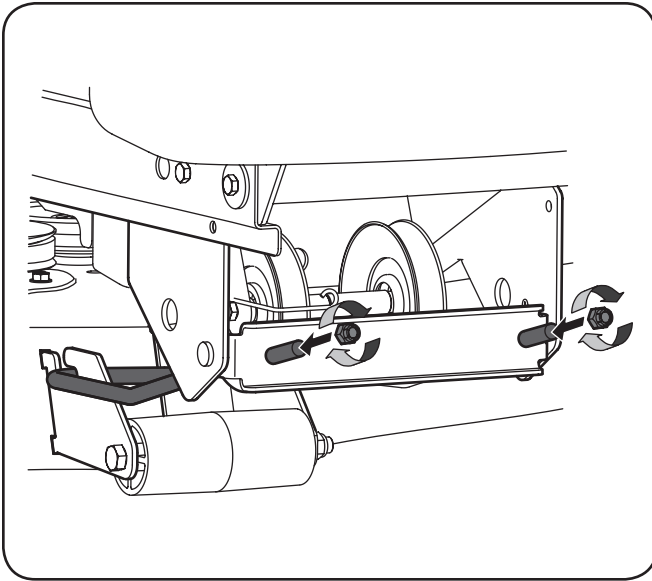

Figure 7-7
- Insert the ends of the front hanger through the holes in the front hanger bracket and secure with the two lock nuts removed earlier. See Fig. 7-7.